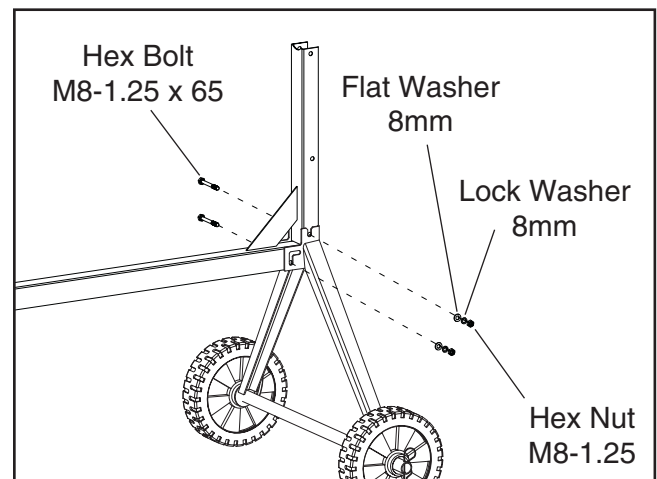

Figure 7. Attaching axle bracket to frame.
4. Attach the axle bracket to the frame with two M8-1.25 x 65 hex bolts on one side and two 8mm flat washers, lock washers, and hex nuts on the other side (see **Figure 7**).